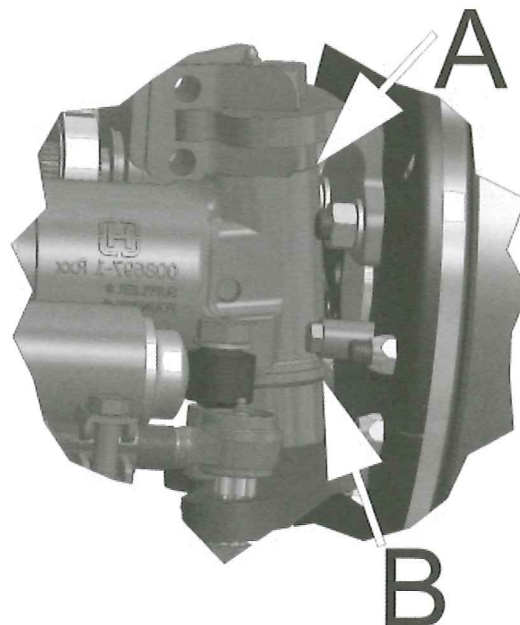

Figure 4. Kingpin Lubrication
4. Force the required lubricant into the upper and lower kingpin grease fittings until new lubricant flows from locations A and B. (See Figure 4)